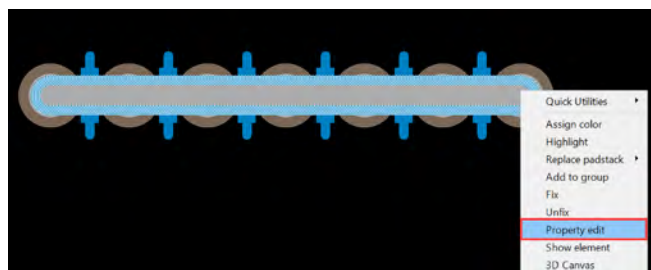

Figure 16: Accessing the properties to select all pins in the VeCS structure.
- Enable “pins” in the “find filter” feature to select all of the pins on the placed VeCS structure and “RMB > property edit” (Figure 16)